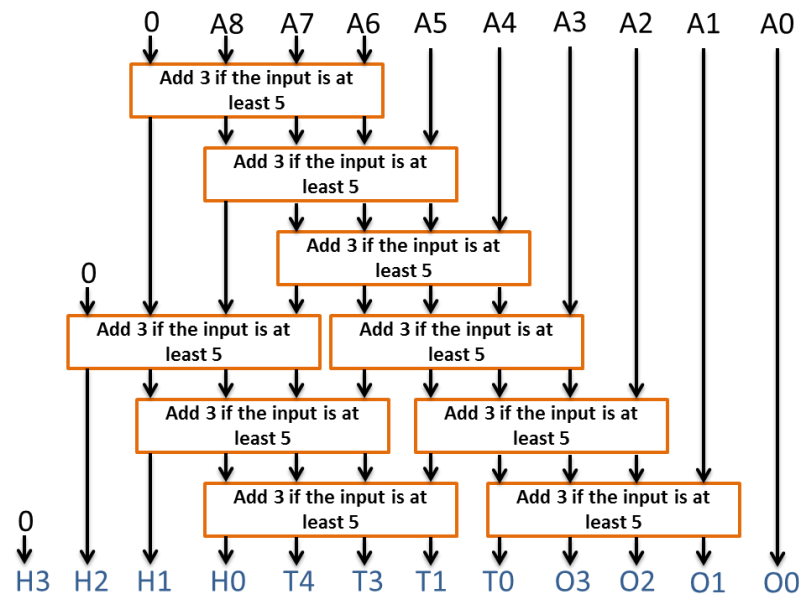

Figure 3. Binary to BCD Converter
3. In Figure 3, write down the values of the input and output of each block on the schematic for a conversion of 011011110_2 . Verify the output by converting 011011110_2 to BCD by hand, and make sure the outputs correspond.
6. With the previous module, create the binary to BCD converter, following the schematic in Figure 3. Run a simulation of the converter to make sure it works.